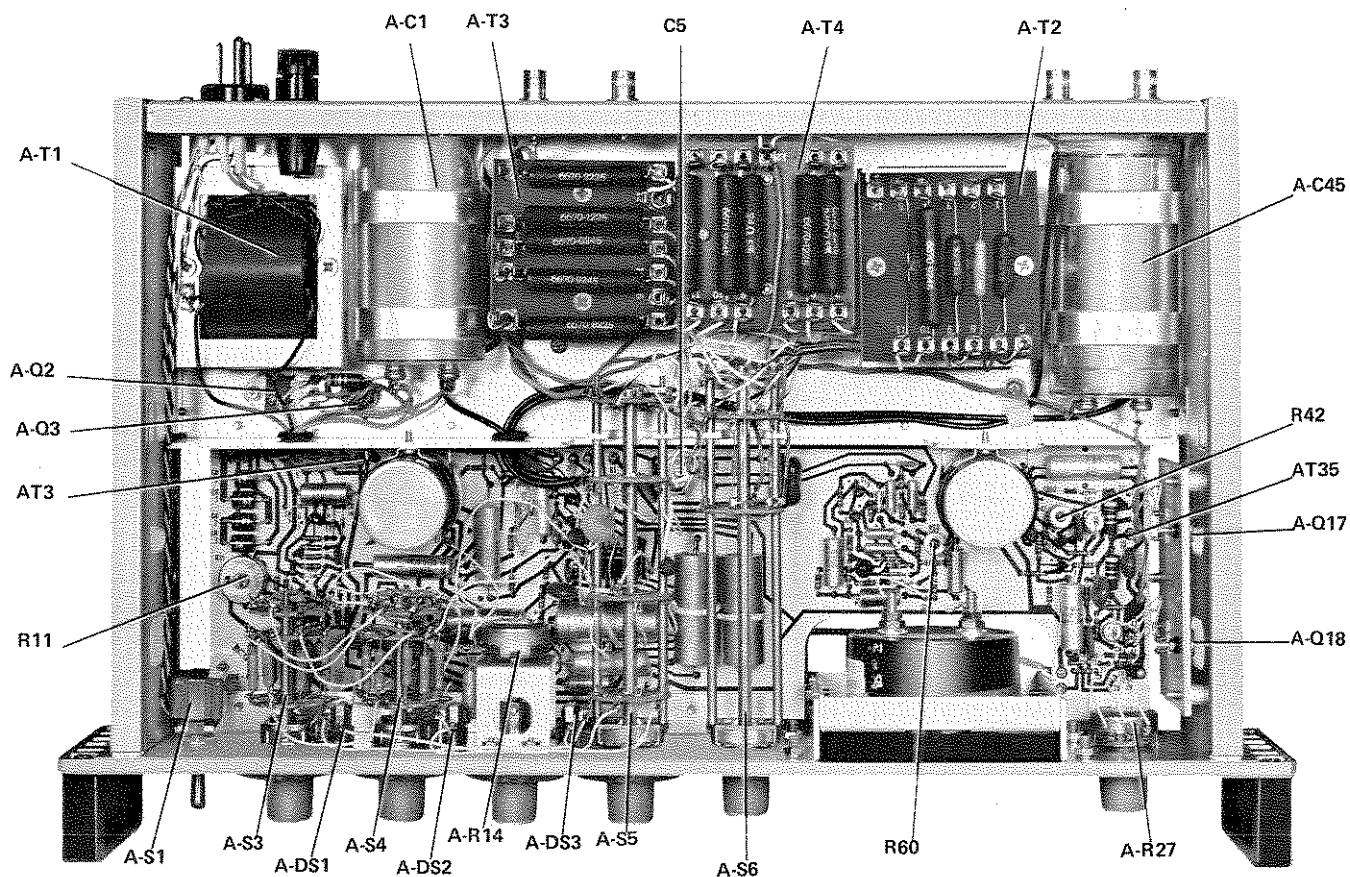

Figure 5-2. Top, interior view.
Figure 5-2 identifies the major components of the oscillator with their corresponding locations.
To adjust the power-supply, B+ voltage, connect the 1807 between TP3 (Figure 5-2) and the chassis for a dc measurement. Use a pair of short clip leads. Adjust R11 for a reading of 20 V.
- c. Connect the oscilloscope probe to AT35 (Figure 5-2).
- f. Adjust R42 (Figure 5-2) to eliminate the aberrations.
- d. Adjust R60 (Figure 5-2) so that the panel-meter indication is the same as that of the 1808 $\pm 1\%$.